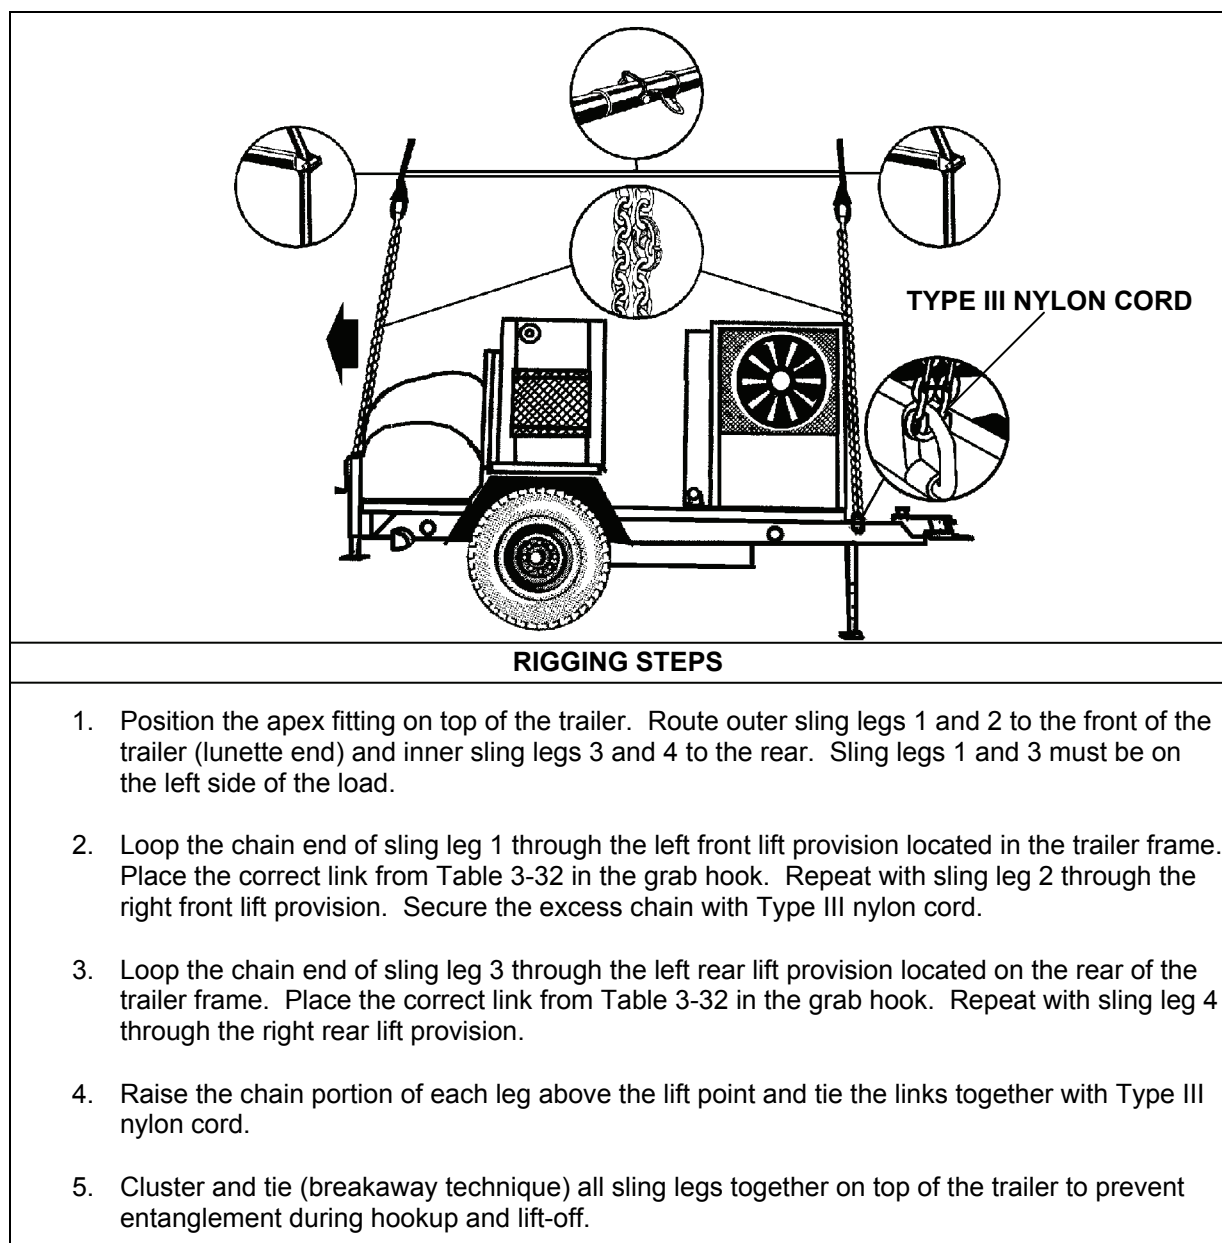

Figure 3-32. Trailer Support System with Expeditionary Shelter
- **Rigging.** Rig the load according to the steps in Figure 3-32.